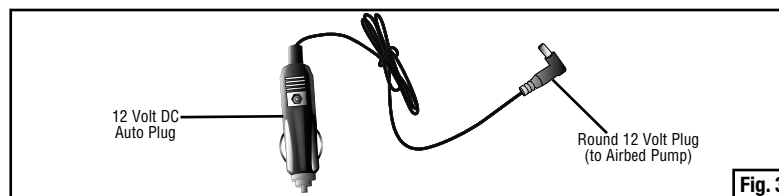

Fig. 3
- Insert 12V DC auto plug into 12V DC power outlet. (see Fig. 3)